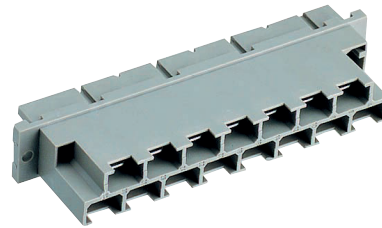

Fig. 43
- Mating H15 connectors with screw, solder, faston, or press-fit terminals, code key system and coding wedges HZZ00202-G; see fig. 43.